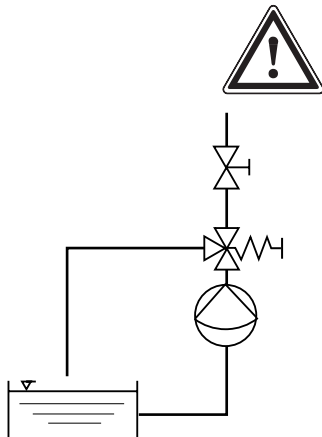

Fig. 10
- ▶ A pressure relief valve with a return flow into the supply tank is recommended as an overload protection for the discharge line, e.g. a ProMinent® multifunction valve (Fig. 10).